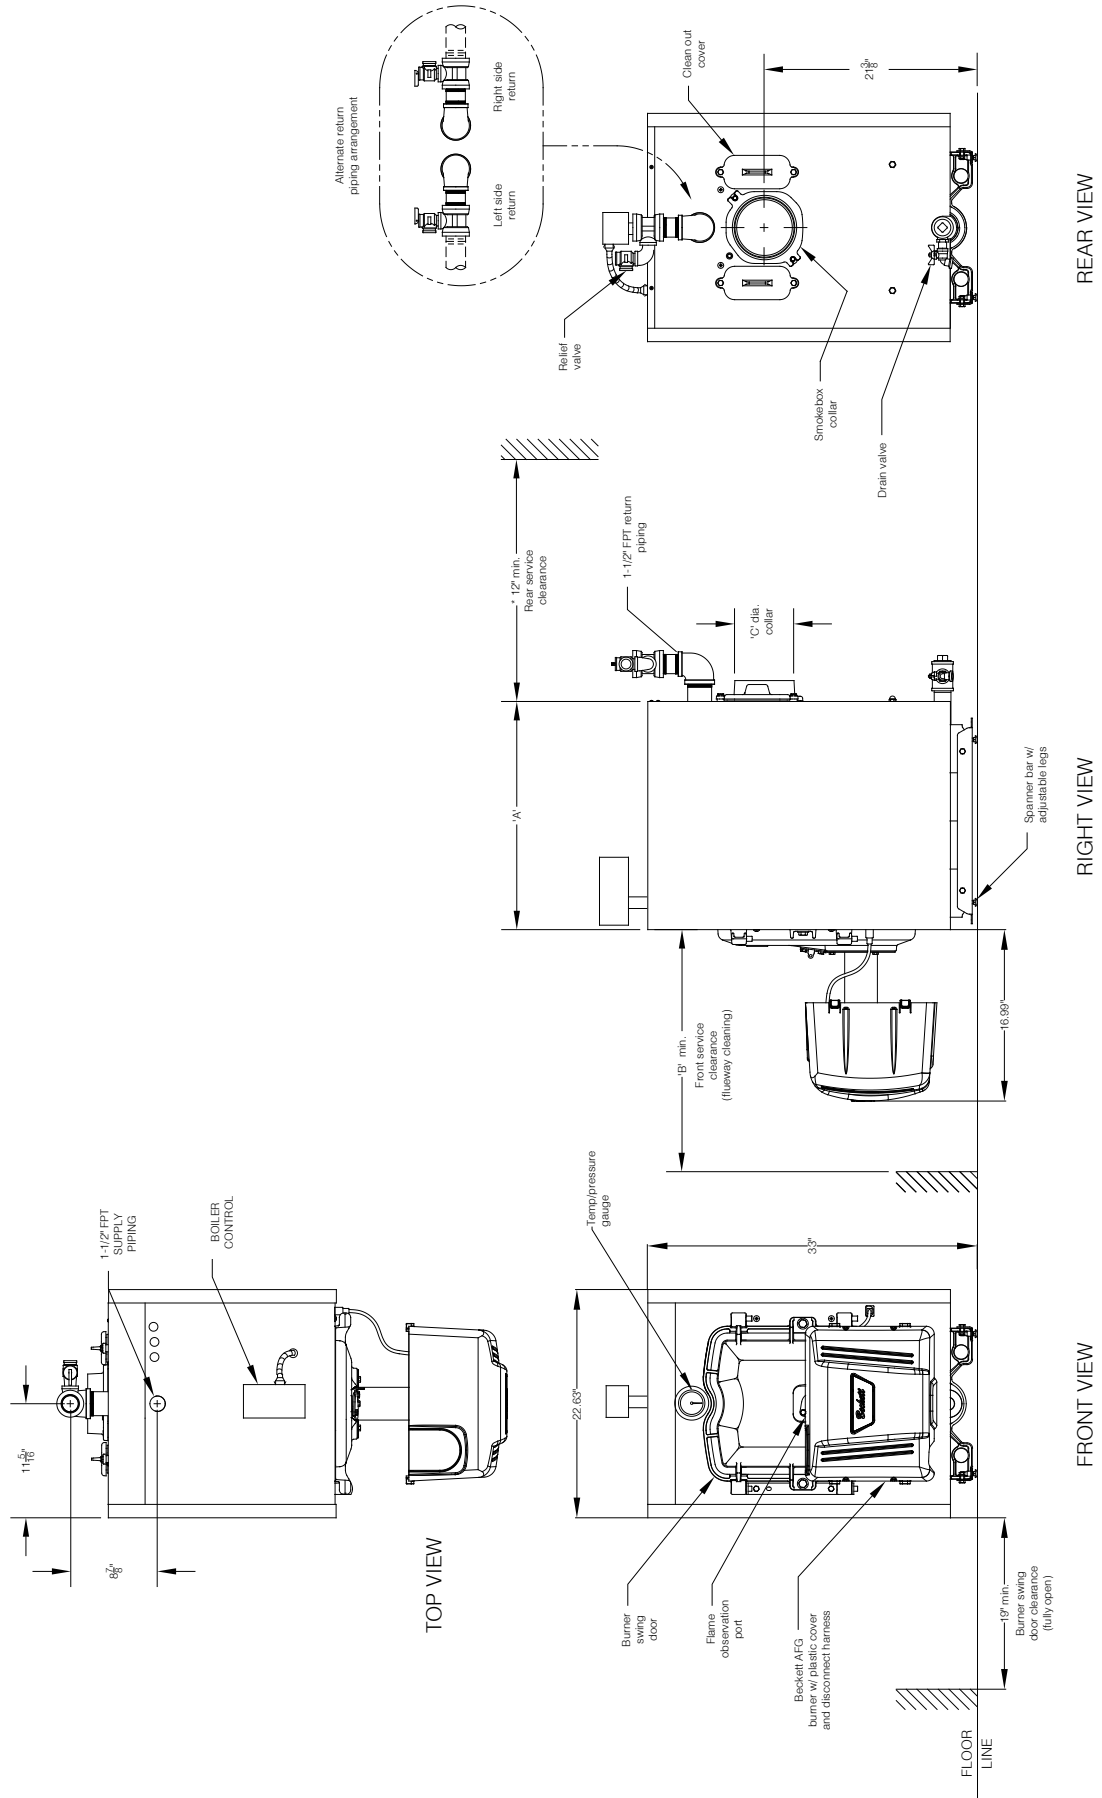

Figure 1-1: EMP Water Boiler
Table 1-2: Dimensional Data (see Figure 1-1)
2. Any claims for damage or shortage in shipment must be filed immediately against the carrier by the consignee. No claims for variances from, or shortage in orders, will be allowed by the manufacturer unless presented within sixty (60) days after receipt of goods.
B. **LOCATE BOILER** in front of final position before removing crate. See Figure 1-1.